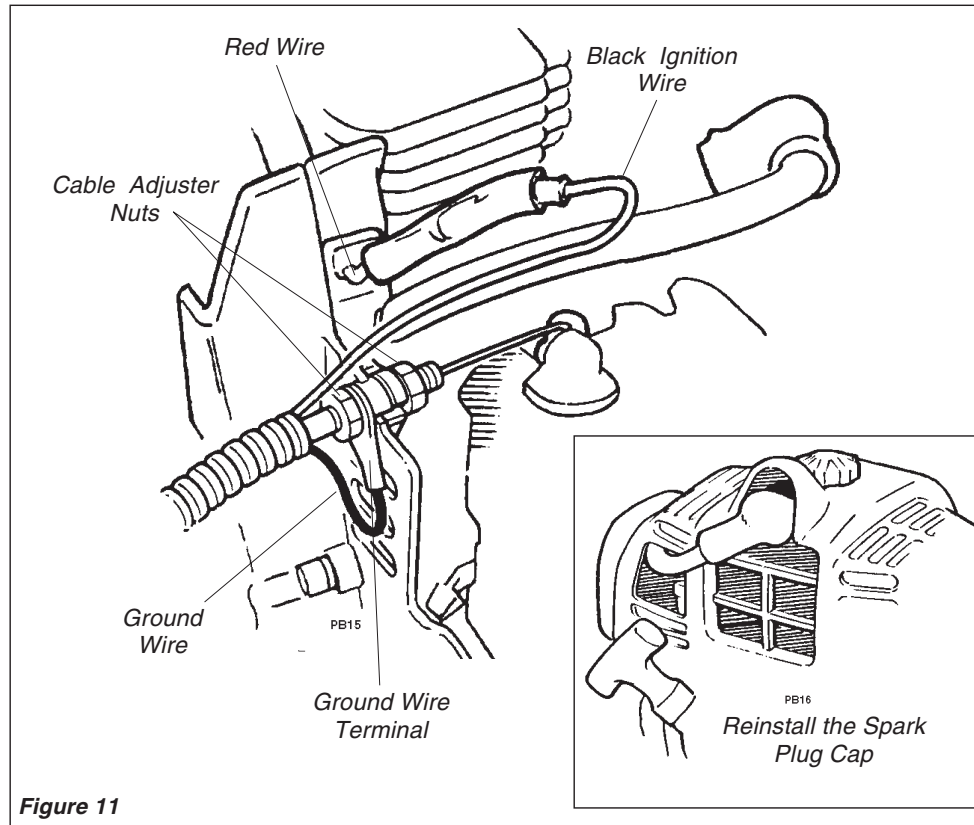

Figure 11
1. Insert the throttle-cable housing into the notch on the fan cover, and clamp the ground wire terminal between the fan cover and the outer cable adjuster nut. See Figure 11.